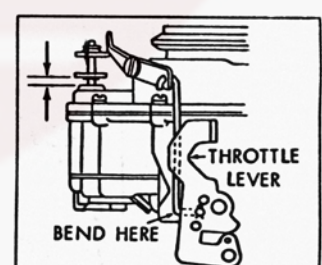

FIGURE 4
- See Figure 4 and Adjustment Data Table. Place Pump Vent Clip in center notch on pump stem. Pump rod in center hole of throttle lever, back off idle stop screw choke valve wide open and throttle valves tightly closed. Measure between bowl vent and vent seat. Bend rod to adjust.
PUMP ADJ. Fig.4